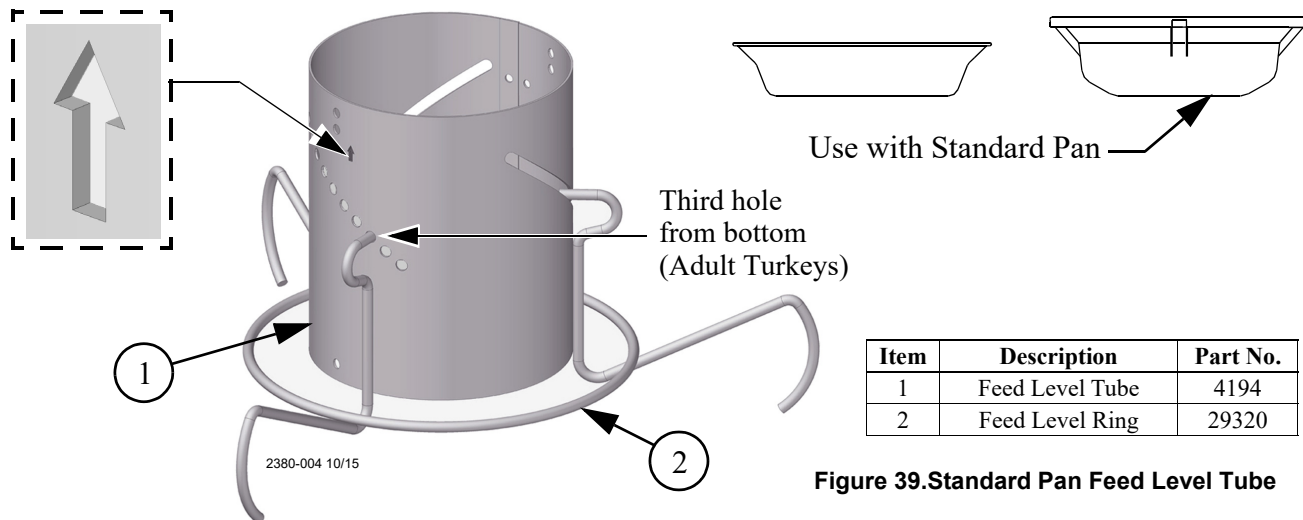

Figure 39. Standard Pan Feed Level Tube
1. Attach the Feed Level Tube (Item 1) to the Feed Level Ring (Item 2) as shown in Figure 39.